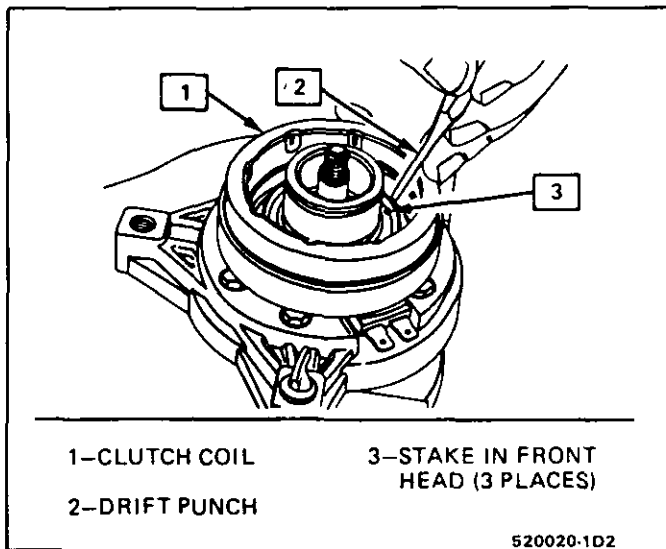

Fig. 20 Staking Clutch Coil To Front Head
5. When coil is fully seated on the front head, use a 1/8" diameter drift punch and stake the front head at three (3) places 120° apart (Fig. 20), to ensure clutch coil remaining in position.